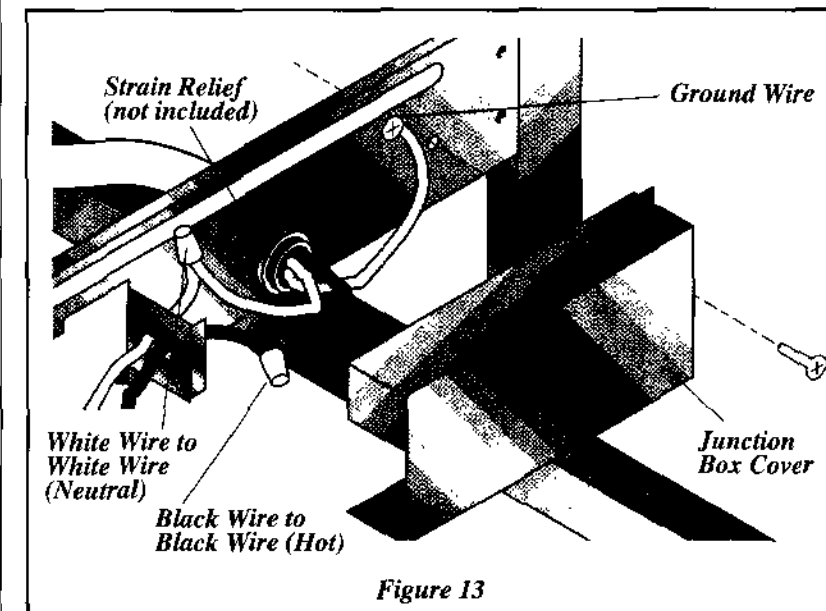

Figure 13
3. Inside junction box, attach ground wire under head of grounding screw and tighten. **See Figure 13.**
5. Replace junction box cover. **See Figure 13.**